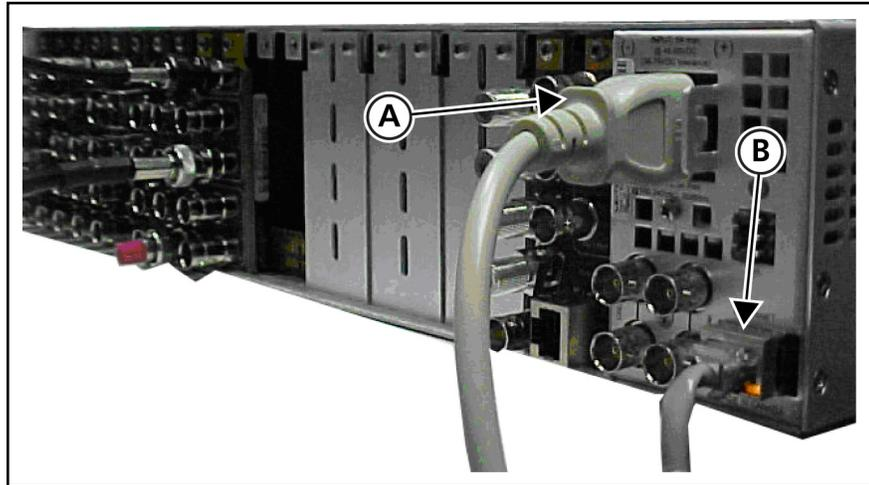

Figure 2-2 Connection for CCS Control
If the frame uses CCS control, plug the power cord (A) and the Ethernet connector cable (B) to the back of the frame, as shown in **Figure 2-2**. Plug the other end of the power cord into an electrical outlet. Plug the other end of the Ethernet connector to a PC that has Harris CCS software installed.